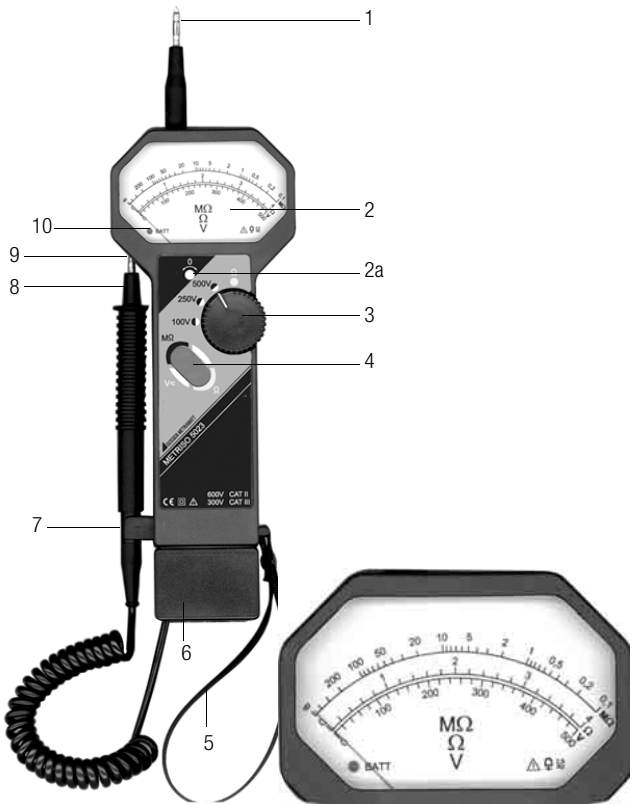

Figure 1 Controls
Thanks to its design and the use of two-hand operation (Figure 1), the device is well suited for safe, daily use. It can be secured against dropping with the attached carrying strap.
- Rocker switch for function selection (4)
- Rotary switch (3)
Measured values are displayed at three analog scales (2). Figure 1 shows these scales in detail. Insulation resistance is displayed at the uppermost scale, low-resistance at the middle scale and voltage at the bottom scale. The device's operating status and battery charge level are indicated with the 2-color LED in the scale (Figure 1).